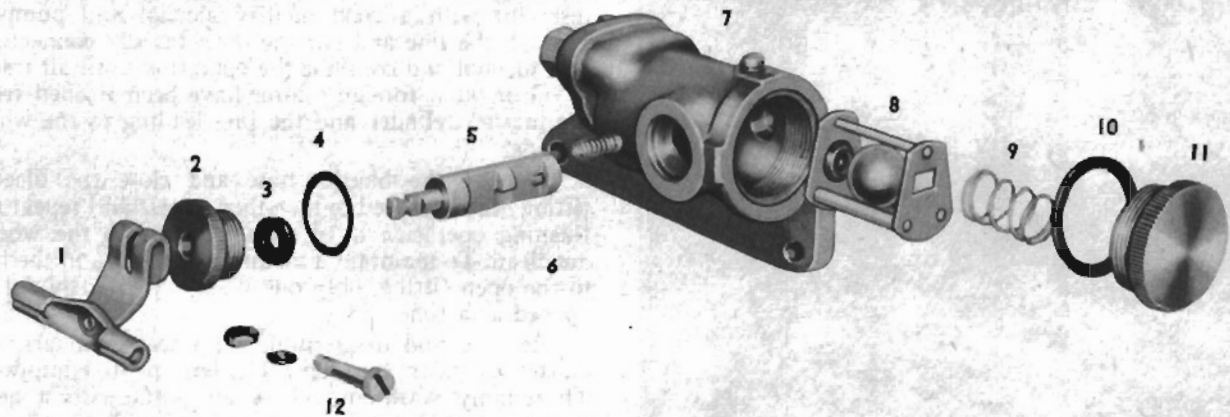

FIG. 10
Remove the lever and guide assembly clamp screw and remove the lever (12, Fig. 10) and guide assembly (1) from the end of the camshaft (5). Remove the housing end plug (11) and gasket (10). Take the ball cage spring (9) out of the chamber. Remove the camshaft plug (2) and gasket (4), and take the camshaft end seal (3) out of the plug. Turn the camshaft (5) to disengage the cam from the slot in the ball cage
Insert the ball cage assembly into the chamber, seal end first, with the slot in the end plate toward the top of the unit. Insert the small spring (6, Fig. 10) in the end of the camshaft (5), and install the camshaft in the housing, engaging the projection on the camshaft in the slot on the end plate. Seat the new camshaft sealing washer in the camshaft end plug, and install the new metal gasket on the plug. Then install the plug in the housing. Place the ball cage assembly spring (9) in the housing, put a new metal gasket (10) on the housing end plug (11), and install the plug.